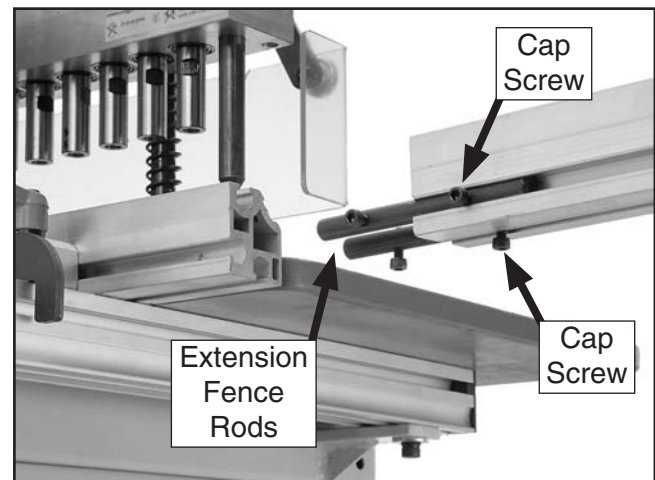

Figure 13. Extension fence rods and cap screws (shown from right rear of table).
1. Insert the fence extension rod assemblies half way into the fence extension, and use a 4mm hex wrench to tighten the cap screws (see **Figure 13**).